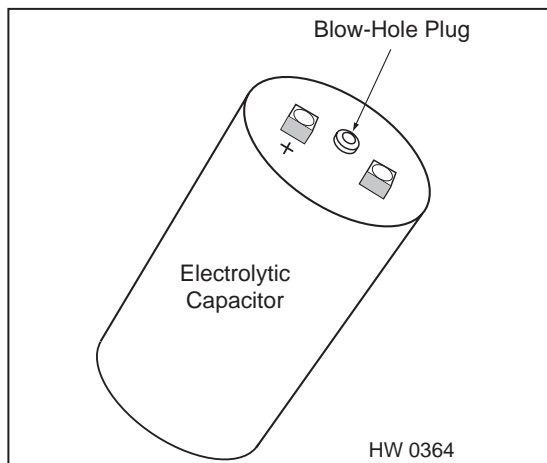

Fig. 4.27 - Capacitor
- a) Check that the blow-hole plug (fig. 4.27) is intact. If the plug has blown the capacitor is faulty. Check for distortion of the case.